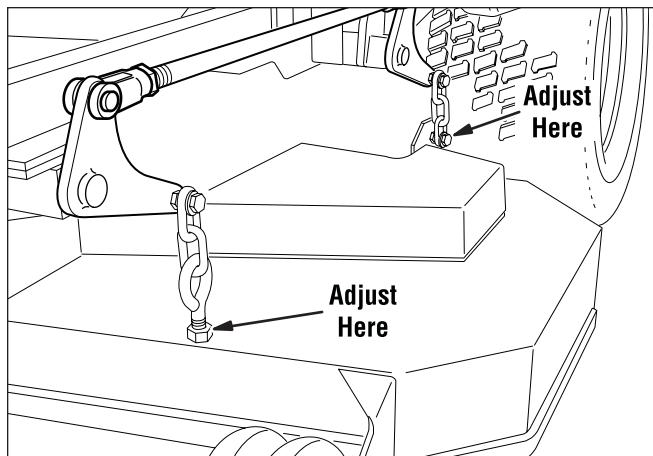

Figure 39. Hanger Chain Adjustment
- Adjust the front eyebolts until the chains are tight and the deck is still resting on the 2 x 4's. Tighten the jam nuts. See Figure 39.
- Loosen the nuts and allow the rear of the deck to rest on the 2 x 4's and 1/4" spacers. Slide the chains down in the slots until the chains are tight and tighten the nuts. See Figure 39.